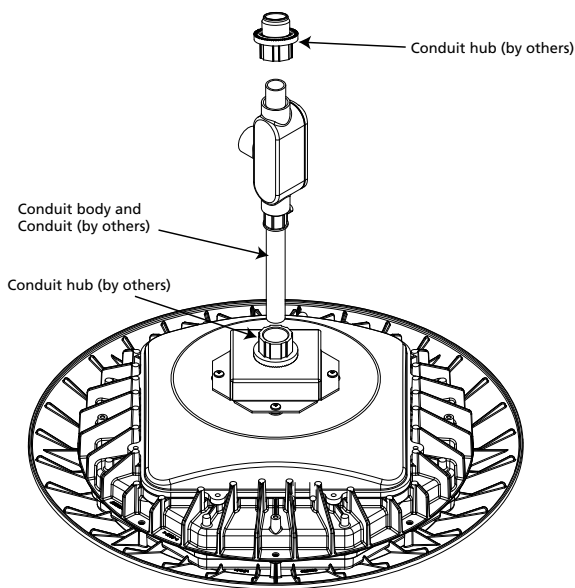

Figure 1
2. Mount pendant housing to SenScape housing with (4) 10-32 x .500" screws @ 20 in-lb (provided), see Figure 1. For LEL and TL2000PS options mount pendant housing with (4) 10-32 hex nuts (provided), see Figure 2.